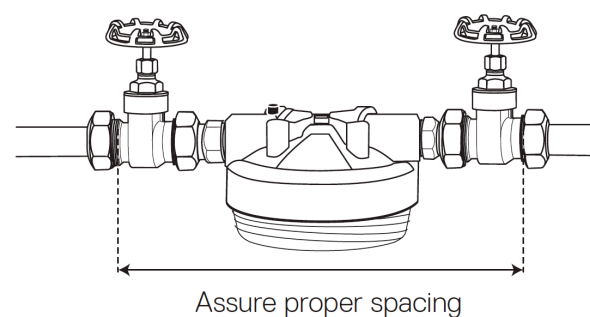

Figure 2
4. Loosely fit shutoff valves on both sides to calculate proper spacing of components. Measure distance and mark pipe accordingly (see Figure 2).